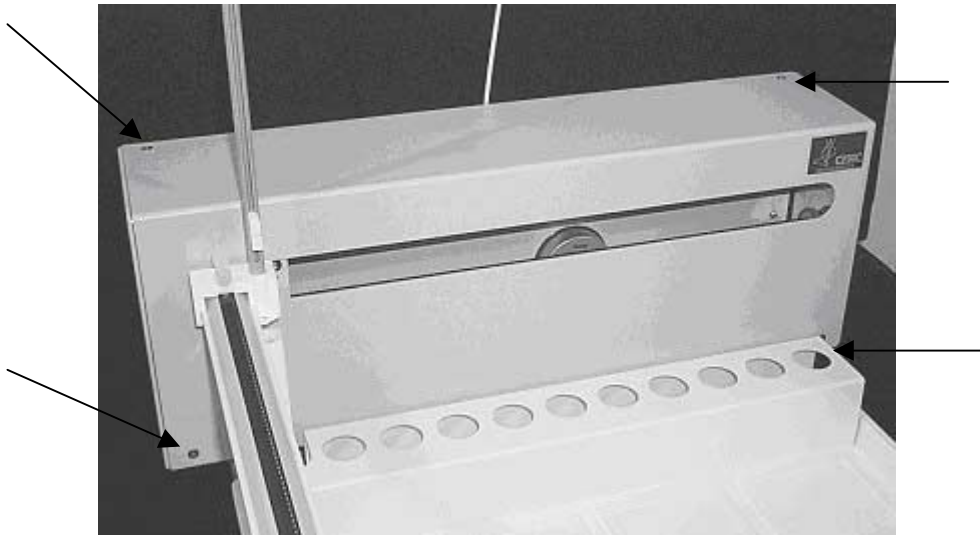

Figure 1-7. Front view of ASX-510 Auto Sampler showing front cover screws.
5. Next, the front cover needs to be removed. Remove the four corner screws shown in Figure 1-7.